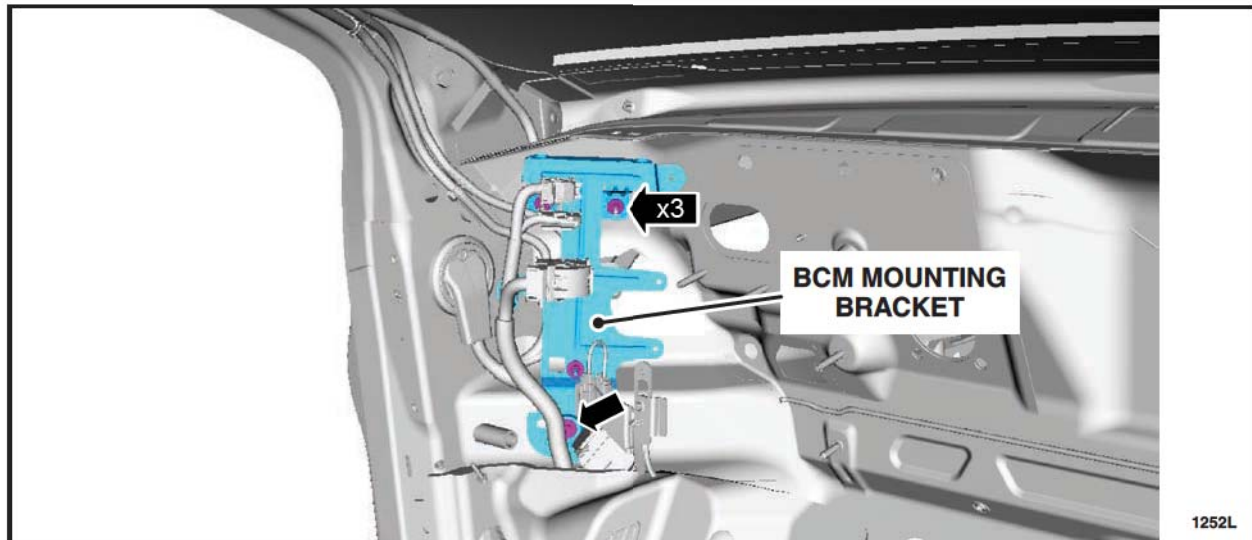

FIGURE 10
17. Position aside the BCM mounting bracket by removing the three bracket nuts. Only position aside far enough to access the electrical connector behind the bracket. See Figure 10.
15. Reposition the BCM mounting bracket. Install and tighten the three bracket nuts. See Figure 10.